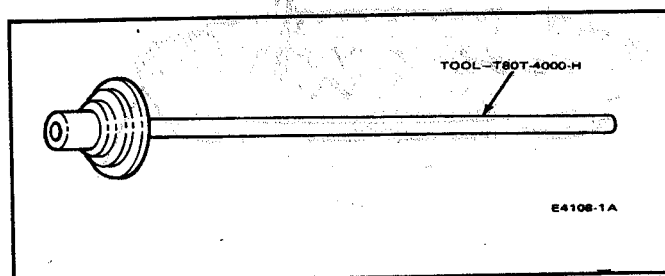

FIG. 14 Inner Axle Seal Installation Tool
1. Install a new seal on the Differential Seal Replacer Tool T80T-4000-H (Fig. 14).